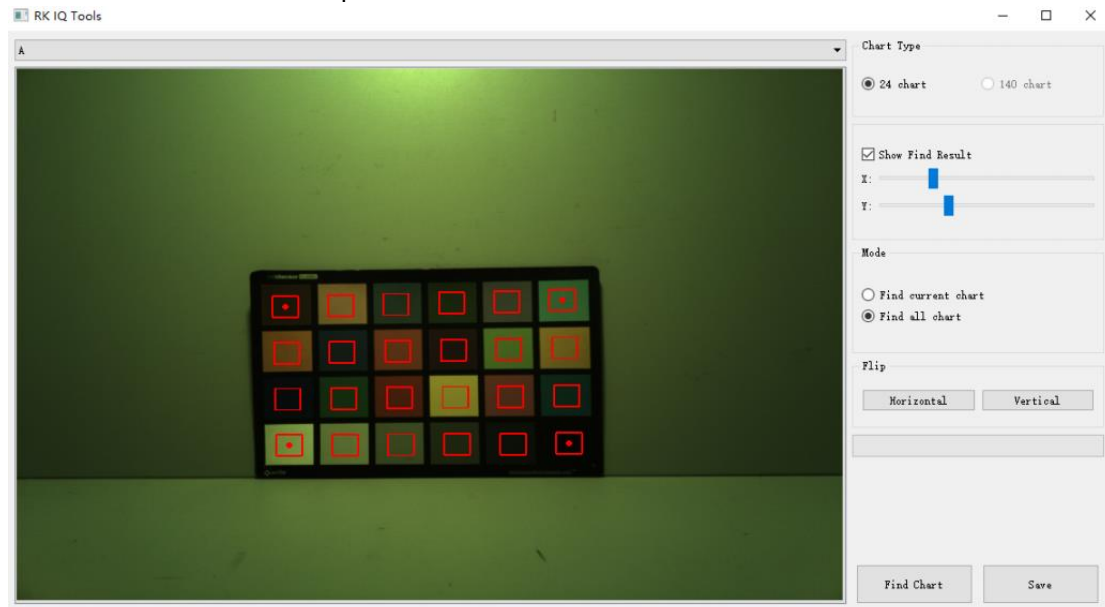

Figure 4-4-4-1
- a) Adjust the statistics area by dragging the red frame center dots on the upper left, upper right, lower left and lower right, and try to ensure that the statistics area is in the center of each color block, as shown in Figure 4-4-4-1